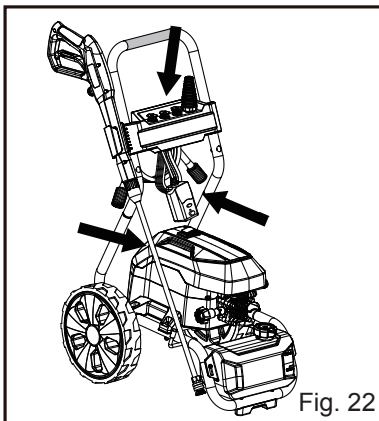

Fig. 22
- Place the spray gun, power cord, high-pressure hose and nozzles on the machine as shown (Fig. 22).